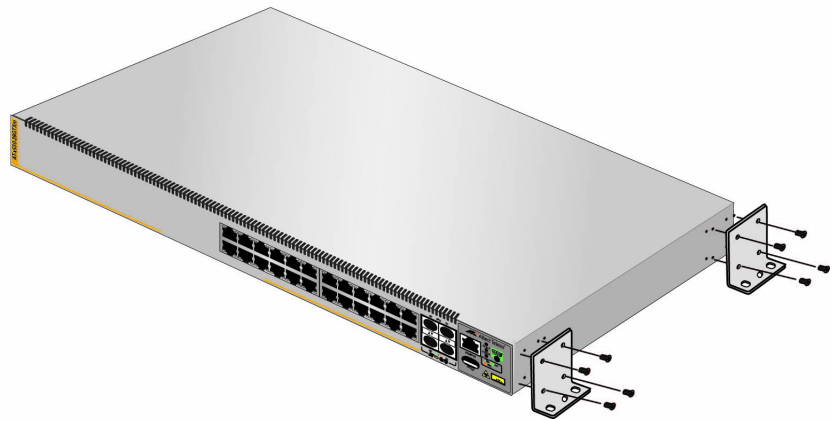
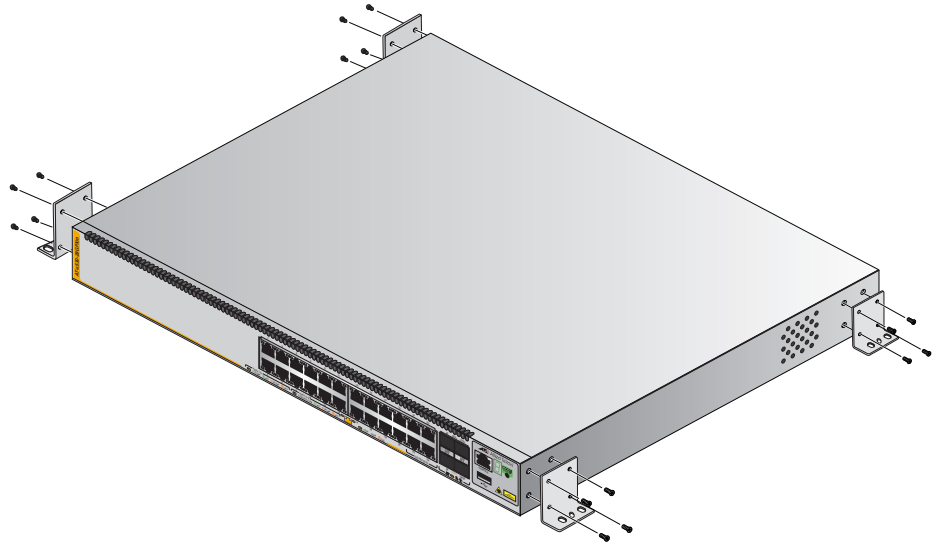

Figure 33. Installing Two Brackets on the x530-28GTXm Switch
Figure 34. Installing Four Brackets on the x530-10GHXm, x530-18GHXm, x530-28GPXm, x530-28GPXm or x530-28GTXm Switch
2. For the x530-28GTXm switch, install two wall/equipment rack brackets to the sides of the unit with the eight M4x6mm screws included with the switch. Refer to Figure 33 on page 83. For the x530-10GHXm, x530-18GHXm, x530-28GPXm, x530-52GPXm or x530-52GTXm switch, install four wall/equipment rack brackets to the sides of the unit with the 16 M4x6mm screws included with the switch. Refer to Figure 34 on page 84.
2. For the x530-28GTXm switch, install two wall/equipment rack brackets to the sides of the unit with the eight M4x6mm screws included with the switch. Refer to Figure 33 on page 83. For the x530-10GHXm, x530-18GHXm, x530-28GPXm, x530-52GTXm or x530-52GPXm switch, install four wall/equipment rack brackets to the sides of the unit with the 16 M4x6mm screws included with the switch. Refer to Figure 34 on page 84. Refer to Figure 34 on page 84.